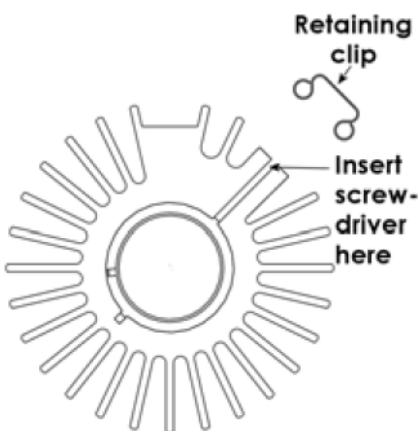

Figure 4. Heat sink retaining-clip removal.
| Figure 4. Heat sink retaining-clip removal.....                                   | 5  |
3. Pry one of the retaining clips off one of the heat sinks and remove the heat sink. If the heat sink does not come off the bulb, insert a flat screw driver in the side slit of the heat sink and widen the gap (Figure 4) to remove the bulb. Repeat with the second heat sink.